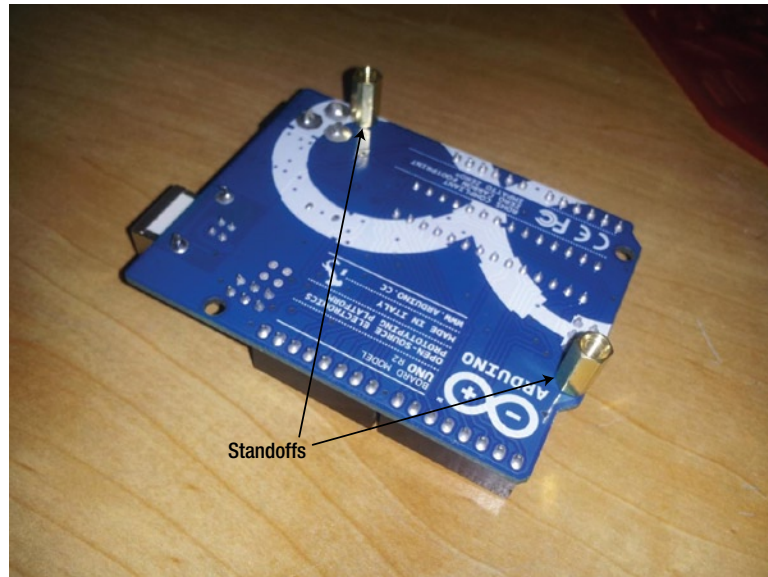

Figure 31-2. Attach the standoffs to the Arduino
1. Attach two of the *standoffs* that came with your chassis to the Arduino. Standoffs are small metal posts that act as spacers between the robot chassis top plate and the Arduino. It's always a good idea to mount the Arduino so it sits slightly above a surface it will be attached to. Figure 31-2 illustrates this process. The standoffs we're using consist of a long nut threaded at both ends to accept screws.